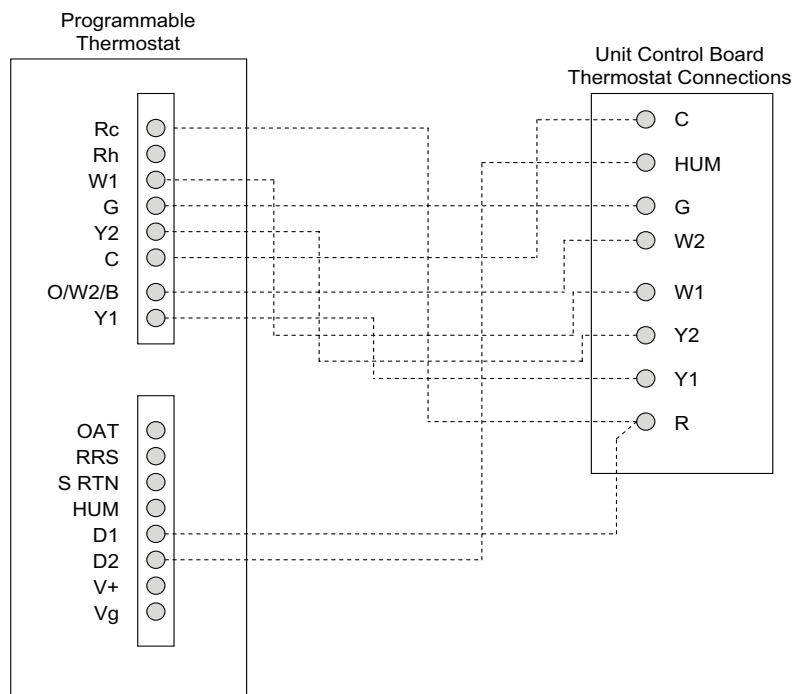

Fig. 35 — Typical Rooftop Unit with Hot Gas Re-Heat Dehumidification System and Programmable Thermostat
3. The Thermidistat has dry contacts at terminals D1 and D2 for dehumidification operation (see Fig. 35). Connect D1 to the R terminal on the UCB. Connect D2 to the HUM terminal on the UCB. Refer to the installation instructions included with the field-installed thermidistat for more information.